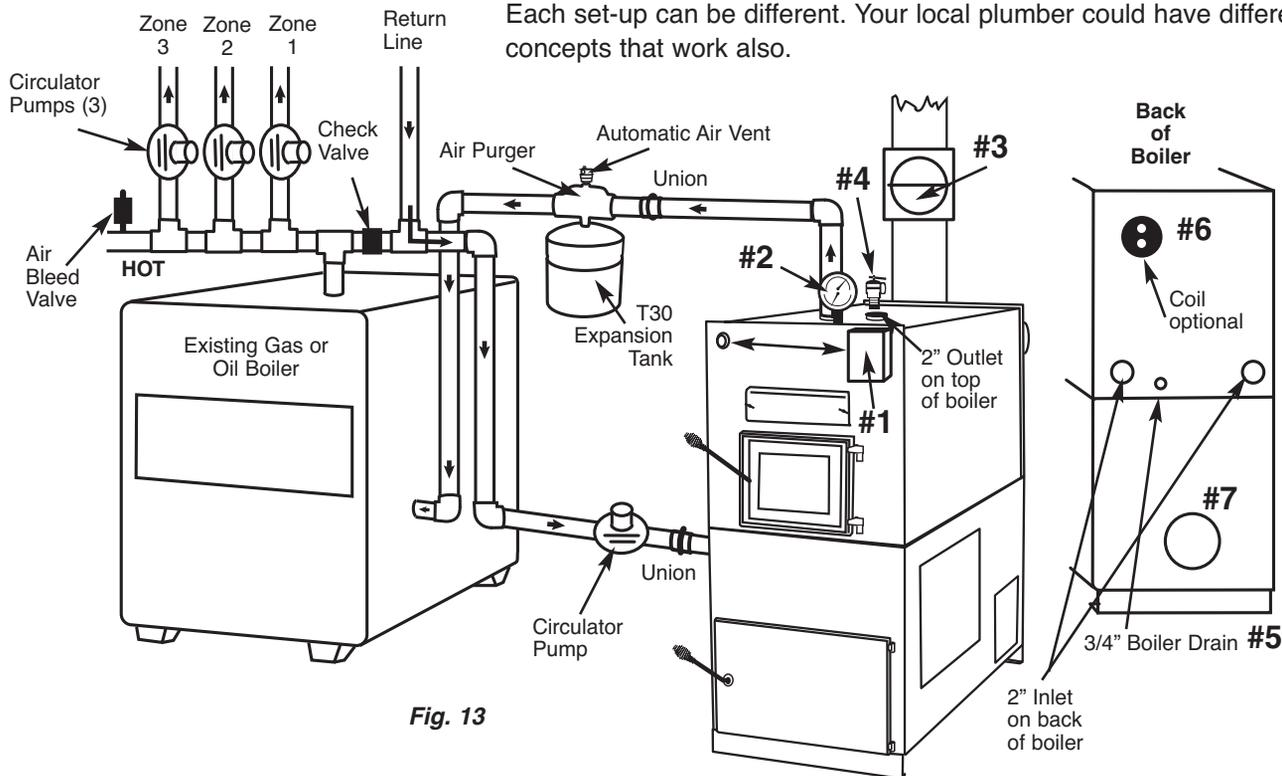

Fig. 13
- 4 - Thread temperature pressure gauge into 1/2 inch fitting at top front center. See page 8, Fig. 13.
- 2 - Thread 30# safety valve into 3/4 fitting at top left back corner. See page 8, Fig. 13.